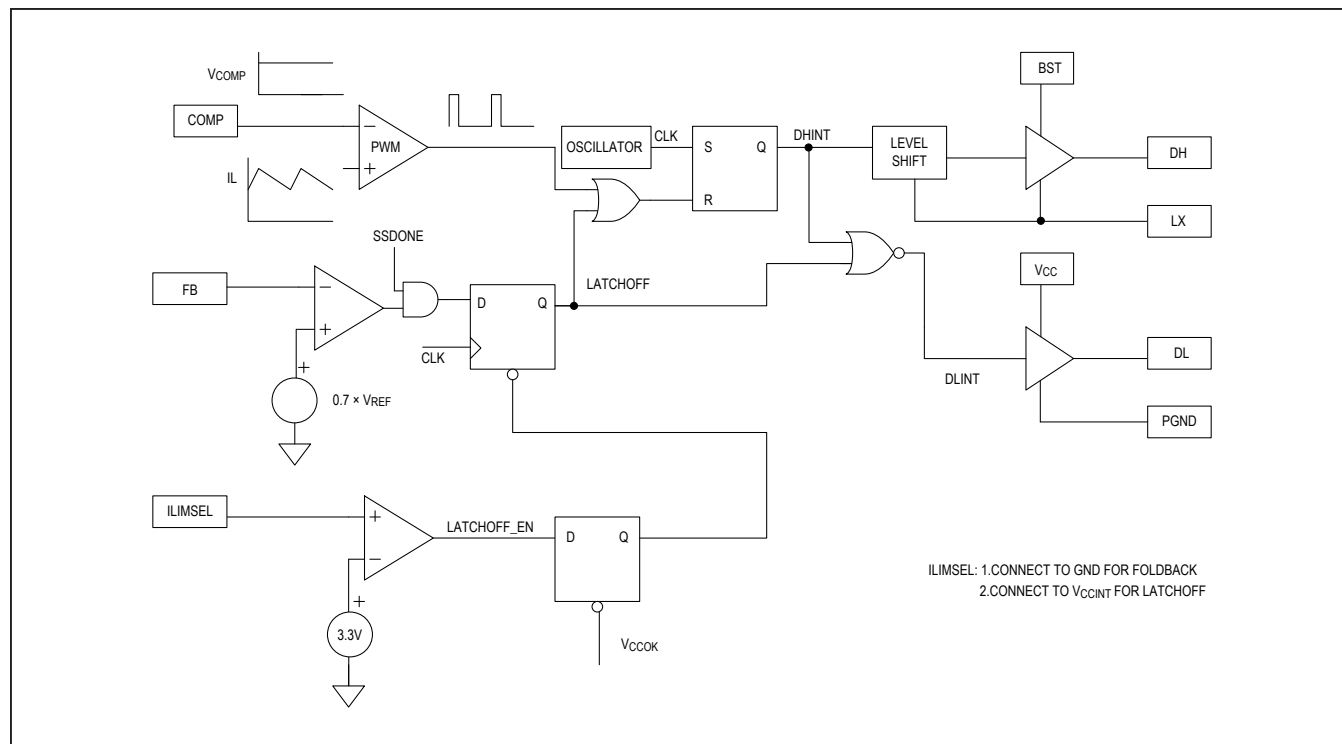

Figure 2. Current Limit Function Block Diagram
| 6   | FB                 | Feedback Voltage Input. Connect the FB to the midpoint of a resistor-divider from output to GND. See the circuit in Figure 2 for details.                                                                                                                                                                                                                                                                                                                                                                                                                                                                                                                         |
In latch-off mode, the controller gets shut down once the overcurrent occurs. To restart the part, either enable (EN) or the power supply to the MAX17557 must be cycled to turn on the part again. For more information, refer to the current limit function block diagram shown in Figure 2.